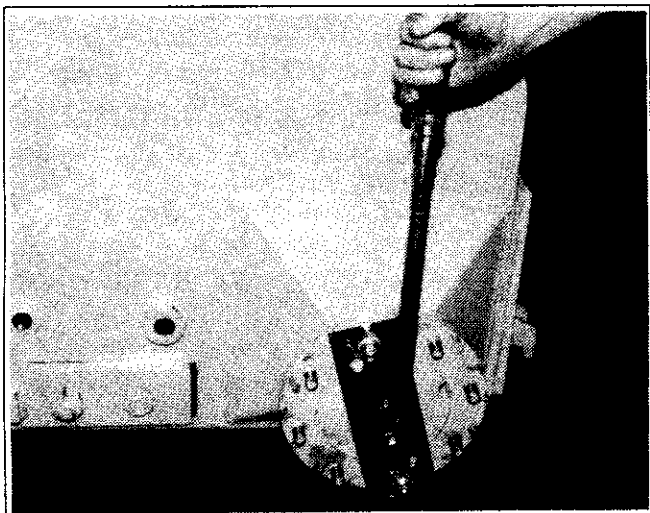

Figure 6-15
- a. Tighten the nut to 100 ft. lbs. (136 Nm) to press bearings in place. (See figure 6-15)